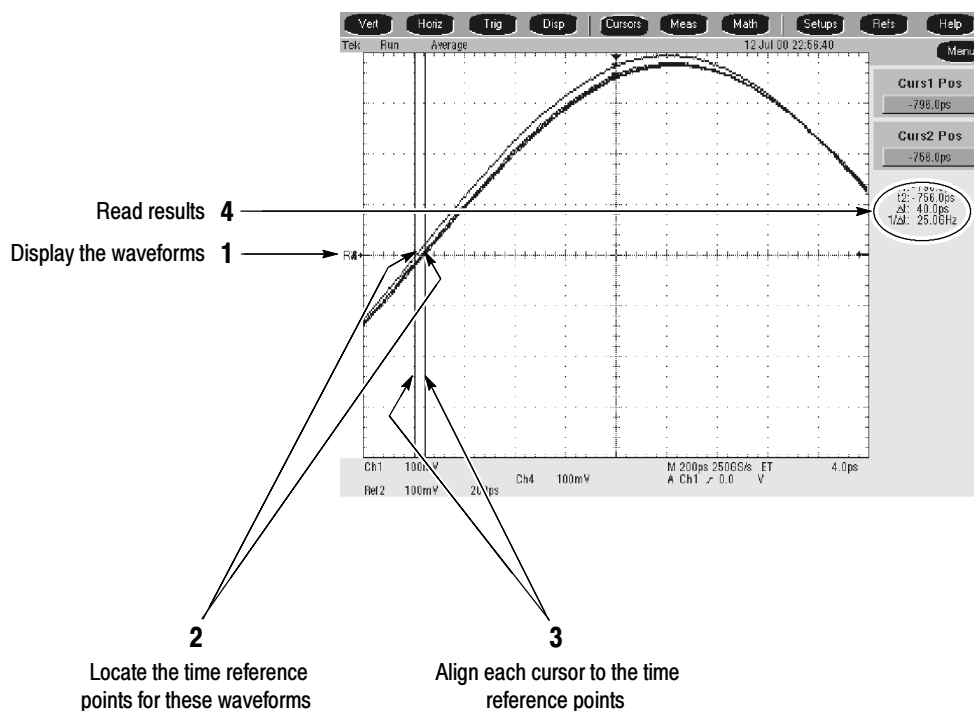

Figure 4-17: Measurement of channel delay
- Display the live waveform. Move the power divider from **CH 3** to **CH 4**, so that CH 1 and CH 4 are driven. Press the Vertical **CH 4** button to display. See Figure 4-17 on page 4-47.
- Display the reference waveforms. To do this, touch the Ref 3 Display **Off** button to toggle it to On and display the reference. Select the **Ref 2** tab and touch the Display **Off** button to toggle it to On. You may notice their overlapping waveform handle icons. See Figure 4-17 on page 4-47.
- Locate the time reference points for these waveforms. Do this by first identifying the point where the rising edge of the left-most waveform crosses the center horizontal graticule line. Next, note the corresponding *time reference point* for the right-most waveform. See Figure 4-17 on page 4-47.